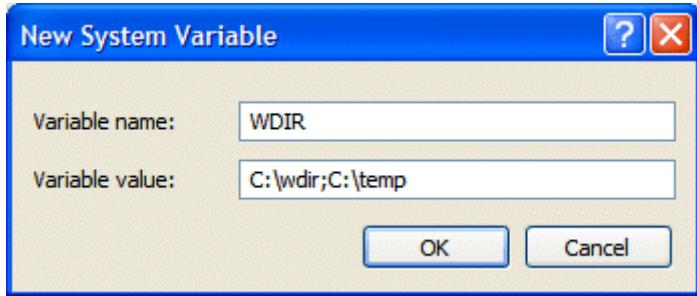

Figure 9-8. Creating a new WDIR variable.
- 7) In this case, enter *WDIR* in the **Variable name** field and then type in the path(s) you want to add in the **Variable value** field as illustrated in Figure 9-8.